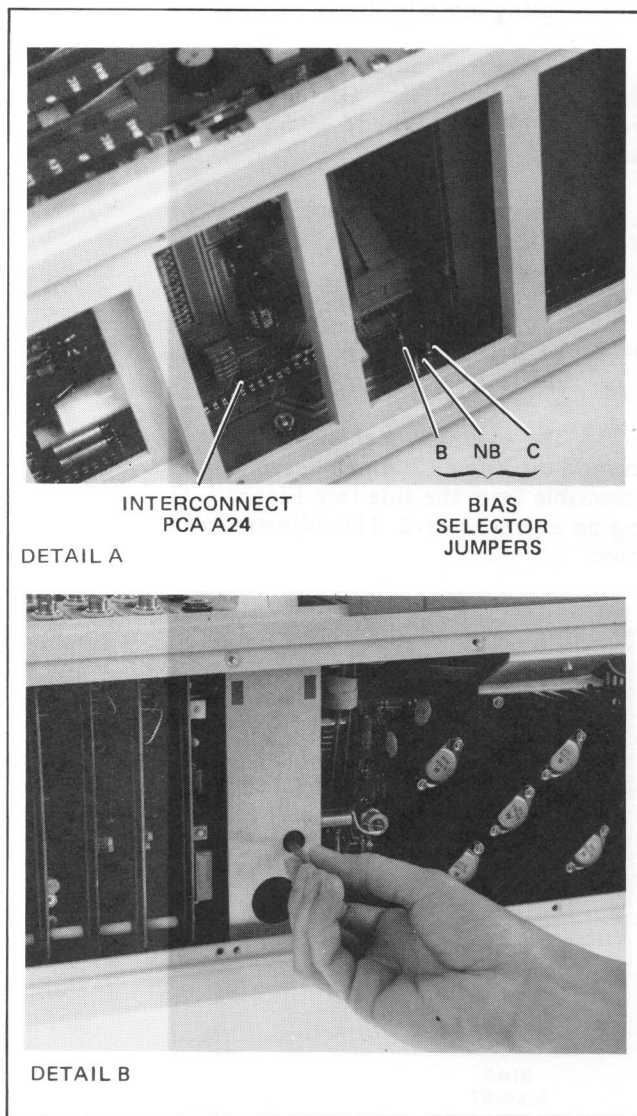

Figure 5-17. Bias Level Test Setup and Adjustment
c. Connect the oscilloscope, using a X10 calibrated probe, to the B and NB square pins on the Interconnect board at the bottom front of the instrument (see Detail A, Figure 5-17).
h. If required, adjust bias control resistor R14 on the Speed Control/Bias Oscillator PCA (see Detail B, Figure 5-17) to obtain $16 \pm 0.5V$ peak-to-peak amplitude.